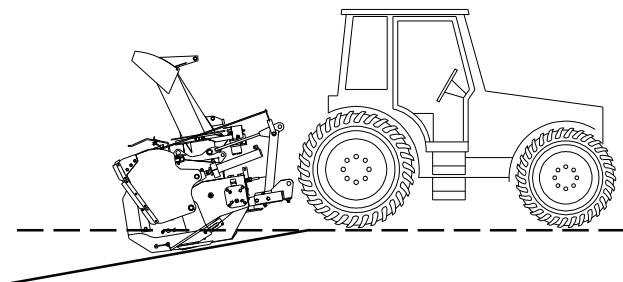
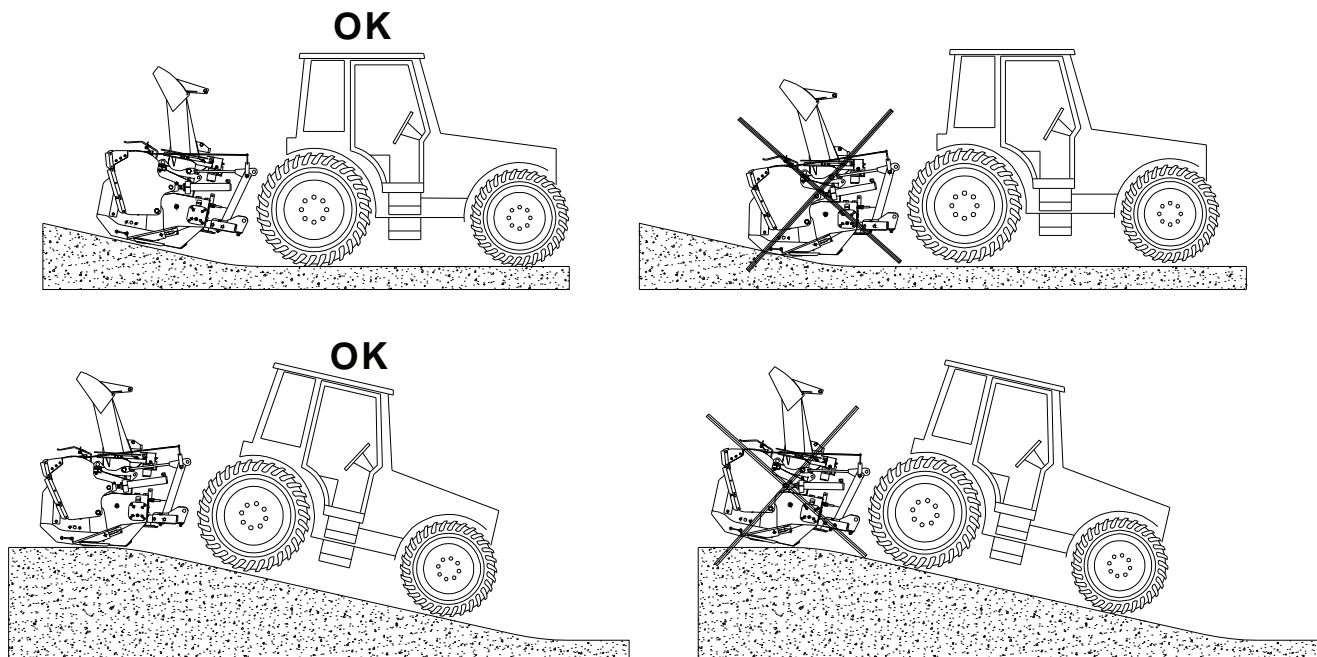

Figure 34
Figure 35
- 1) Place the tractor and blower on a level surface. If the top link of your tractor's 3 point hitch has several holes (Fig. 37-K), select the hole to produce a movement similar to the one shown in Figure 34. **When there is a slope on the ground, the snowblower's skid shoes must remain parallel to the ground whether it is higher or lower than the level of the tractor.** It provides a better scraping on various slopes and avoid the bottoming of the snowblower on surfaces. You will obtain a working movement as shown on fig. 35.